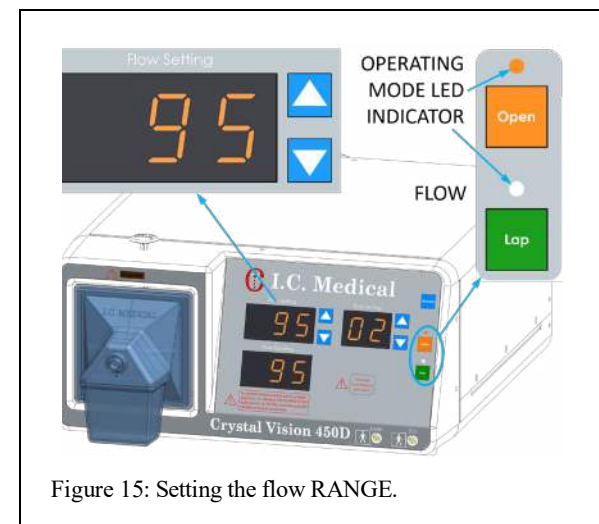

Figure 15: Setting the flow RANGE.
6. OPEN and LAP buttons (Figure 15) select the flow range of the vacuum pump. The operator, according to the type of procedure selects the range. **LAP MODE SHOULD BE SELECTED FOR ALL LAPAROSCOPIC PROCEDURES** and the readouts are GREEN. OPEN MODE should be used during open and external cases when plume is being eliminated through a handpiece. Using OPEN MODE during laparoscopy will quickly deflate the pneumoperitoneum. The OPEN and LAP buttons also select the corresponding FLOW SETTING.